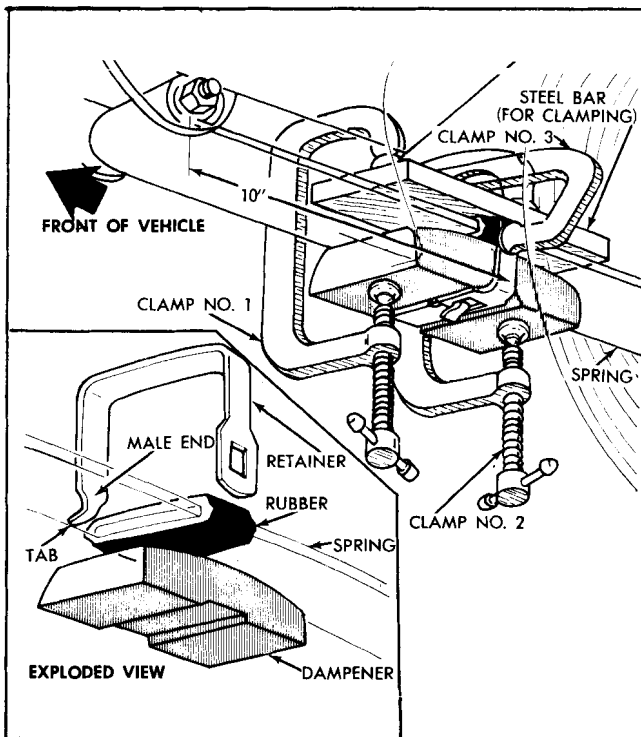

Fig. 4-24 Installation of Spring Dampener on X Series with Single Leaf Spring
1. Install rubber cushion ten (10) inches from center-line of spring front eye bushing.
4. Install two (2) "C" clamps in the locations shown in Fig. 4-24.
5. Compress rubber cushion in the following sequence (Fig. 4-24).